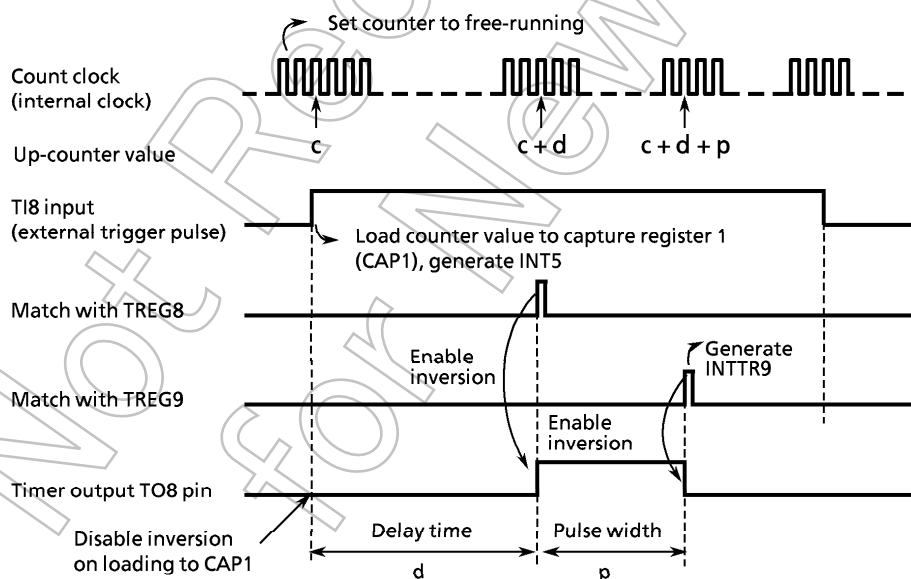

Figure 3.8 (6) One-Shot Pulse Output from External Trigger Pulse (With Delay)
The (c), (d), and (p) notation above corresponds to c, d, and p in Figure 3.8 (6), One-Shot Pulse Output from External Trigger Pulse (With Delay).